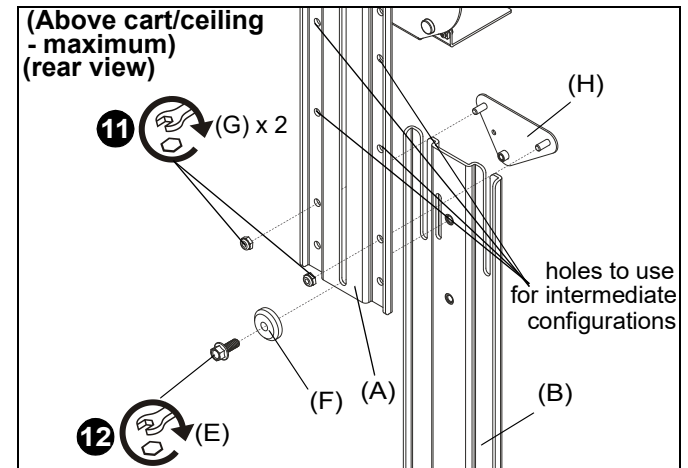

Figure 21
- (For **maximum/intermediate extension**) Use two #10-24 lock nuts (J) to secure upright bracket (A) to main bracket (B) and adapter plate (H). (See Figure 21)
- (For **maximum/intermediate extension**) Use 1/4-20 x 5/8" hex head flange bolt (E) and center washer (F) to secure upright bracket (A) to main bracket (B). (See Figure 21)